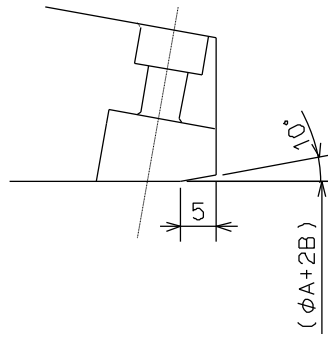

Fig.16
4. If the slope of work piece is less than 5 degree, it may be usual cylindrical face, while if it is more than 5 degree, provide the taper at the front side of jaw as shown in Fig.16 to prevent the work from interference.